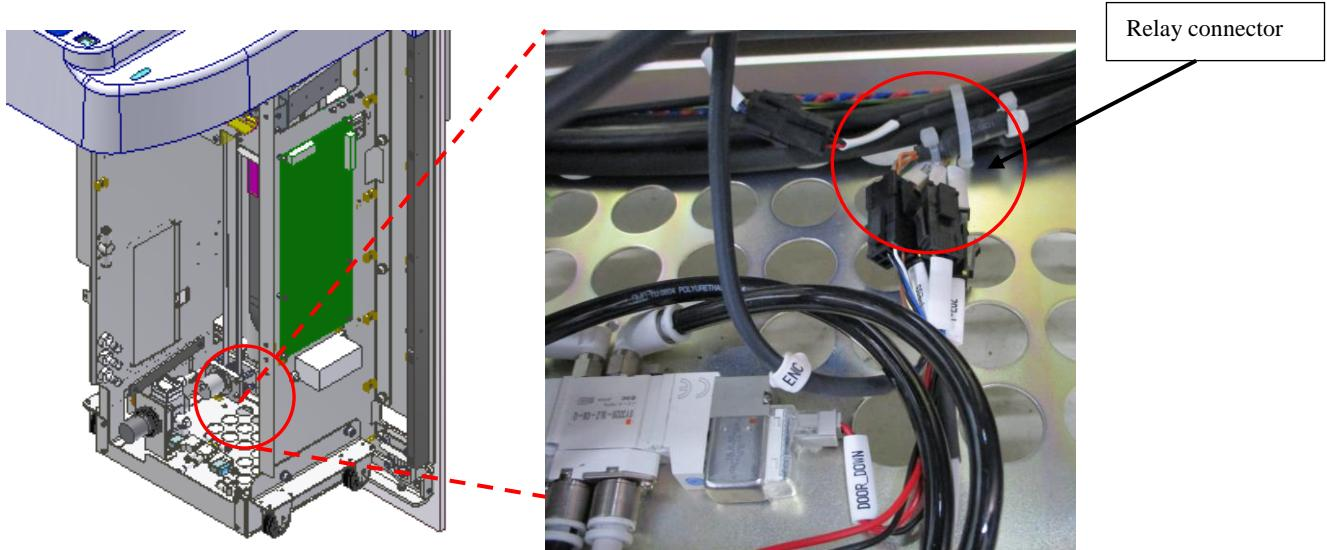

Fig 5.3 Encoder Relay Connector
- (17) Install the encoder relay connector. (※Refer to Fig 5.3 in the step (6).)
- (18) Turn the machine power ON, move the door to the loading position, and then turn the machine power OFF.
- (19) Fix the nuts loosened in the step (3) again.